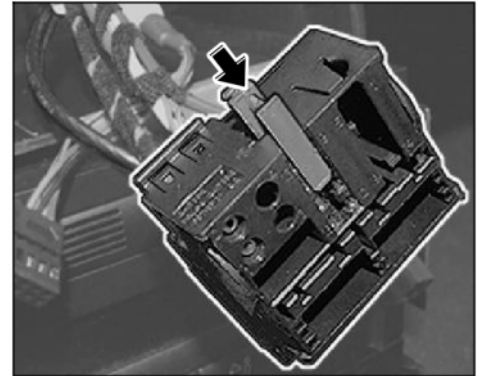

Figure 49
- 5.9.4 Insert secondary lock into the PCM central connector ⇒ *Figure 49* **-arrow-**.